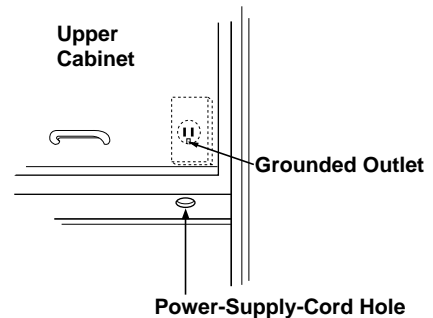

Figure 4
1. Locate the grounded electric outlet for this oven in the cabinet above the oven, as shown in Figure 4 Detail.
2. You will cut the power-supply-cord hole (shown in Figure 4 Detail) later when you prepare the wall and upper cabinet in Step 4.